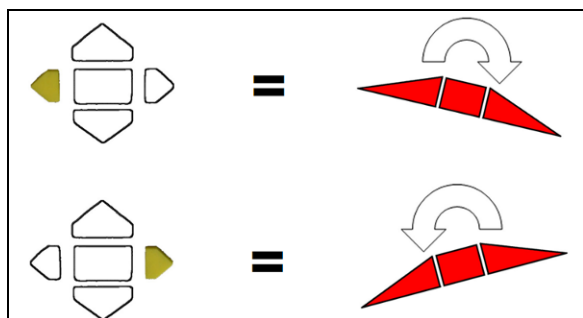

Figure 37: Default Slant Direction Wiring
- If the left-hand tip lifts when you press the left button, and the right-hand button lifts the right hand tip (as shown in **Figure 37**), the wiring as described above is correct.